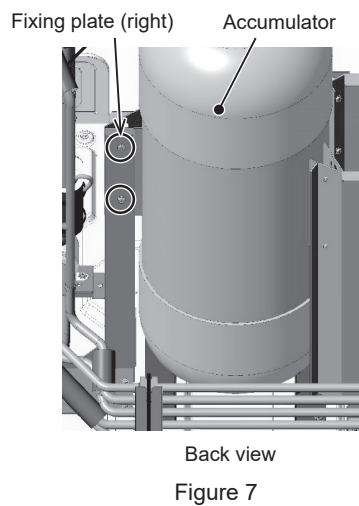

Figure 7
- (8) Remove the braise at the four areas on the accumulator inlet and outlet pipes shown in Figure 7.
- (9) Re-place the accumulator in the reverse order as it was removed.